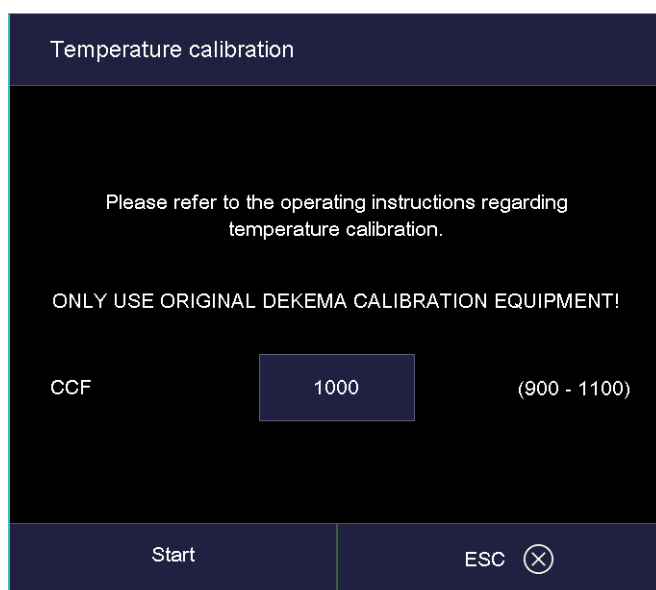

Fig. 7-2 Starting the temperature calibration
1. In the "Setup" menu, select the program "Temperature calibration". See Fig. 7-2.